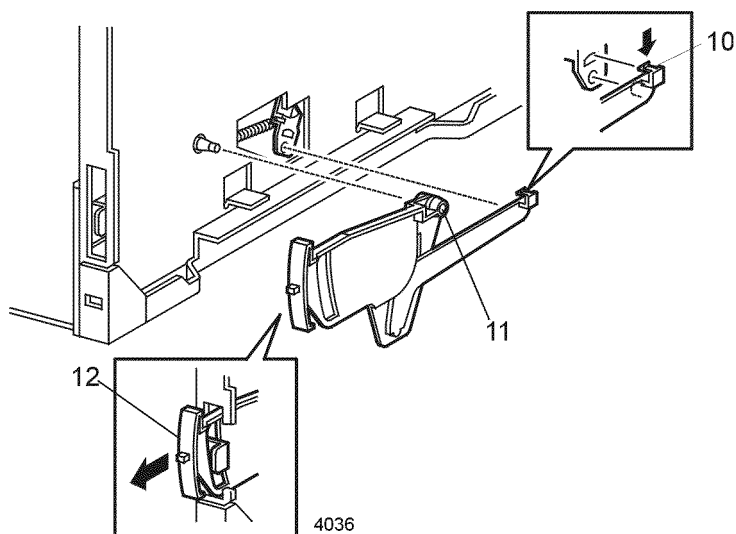

Figure 1 Paper Level Indicating Arm
11. Remove the paper level assembly from the stud on the frame (Figure 1).
12. Move the paper level forward to unlatch then remove from the printer (Figure 1).